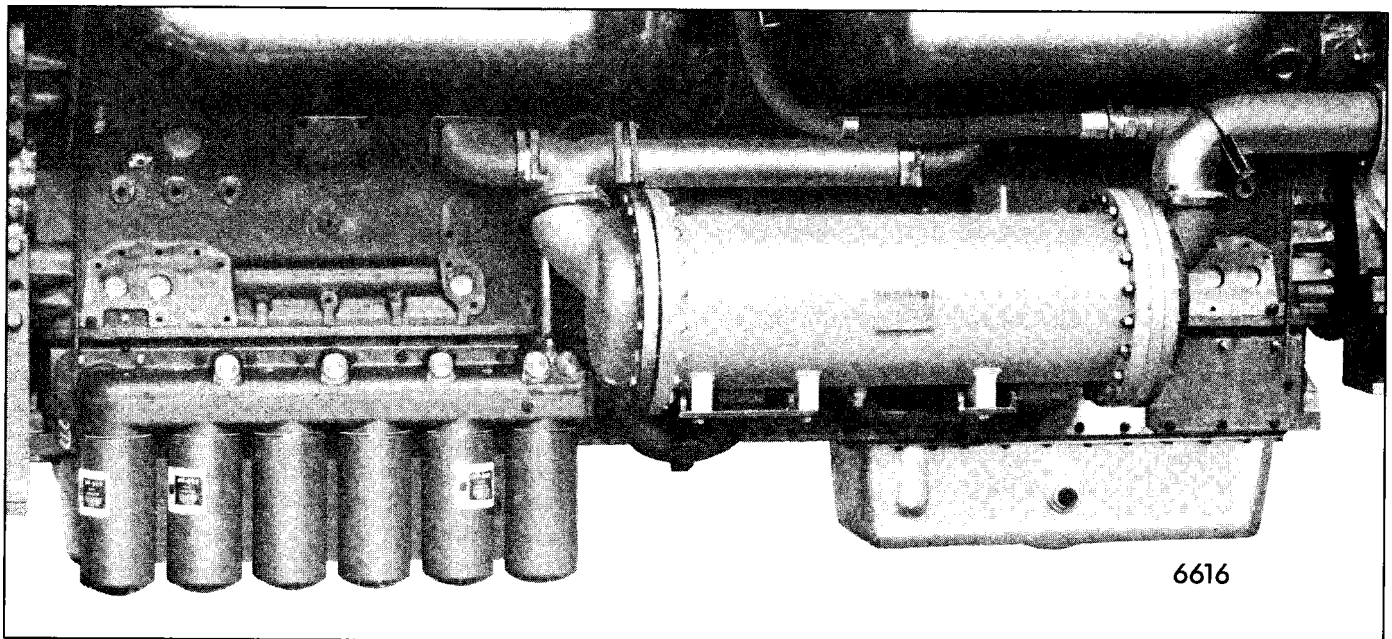

Fig. 2 - Typical Spin-On Oil Filter Mounting-16V Engine with Tube and Shell Oil Cooler
- Multi-pack oil filter adaptors with spin-on filters are used on engines with tube and shell oil coolers. The adaptor on 8V engines requires three (3) filters, the adaptor on 12V engines requires four (4) filters, and the adaptor on 16V engines (Fig. 2) requires six (6) filters.